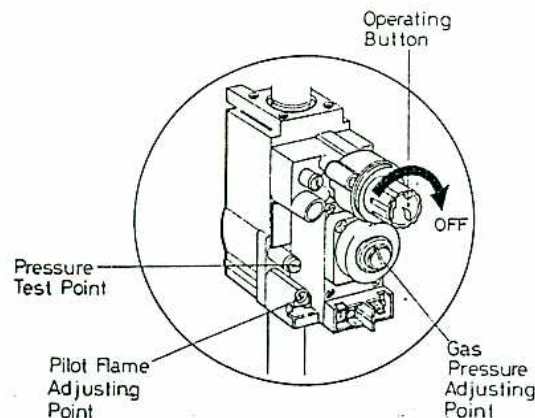

Fig. 3 Multifunctional Control
- b) Remove the cover from the adjustment point on the multi-functional control (see Fig.3), release the pressure test point screw and attach a pressure test gauge.
d) Push the START BUTTON (marked with the flame symbol) on the multi-functional control (see Fig.3) fully in and hold it in. Repeatedly push and release the lighting button until the pilot is alight. N.B. If the piezo unit should fail to spark, the pilot burner may be lit by applying a lighted taper to the pilot whilst the START BUTTON is pushed in.
6.9 Allow the heater to operate for 15 min., then adjust the burner pressure to the output required (see Fig. 3 and Table 2).
To adjust the burner pressure, remove the cover from the gas pressure adjusting point (see Fig.3) and turn the flow rate screw clockwise to increase, anti-clockwise to decrease.
- 8.9 Gas Pressure check (see Fig.3 and Table 2):-
Attach a gas pressure gauge to the burner setting pressure test point on the multi-functional control (see Fig.3). Light the heater, check the pressure and confirm by a gas rate check at the meter. Adjust, if necessary, at the gas pressure adjusting point after removing the cap. Turn clockwise to increase burner pressure and vice versa.